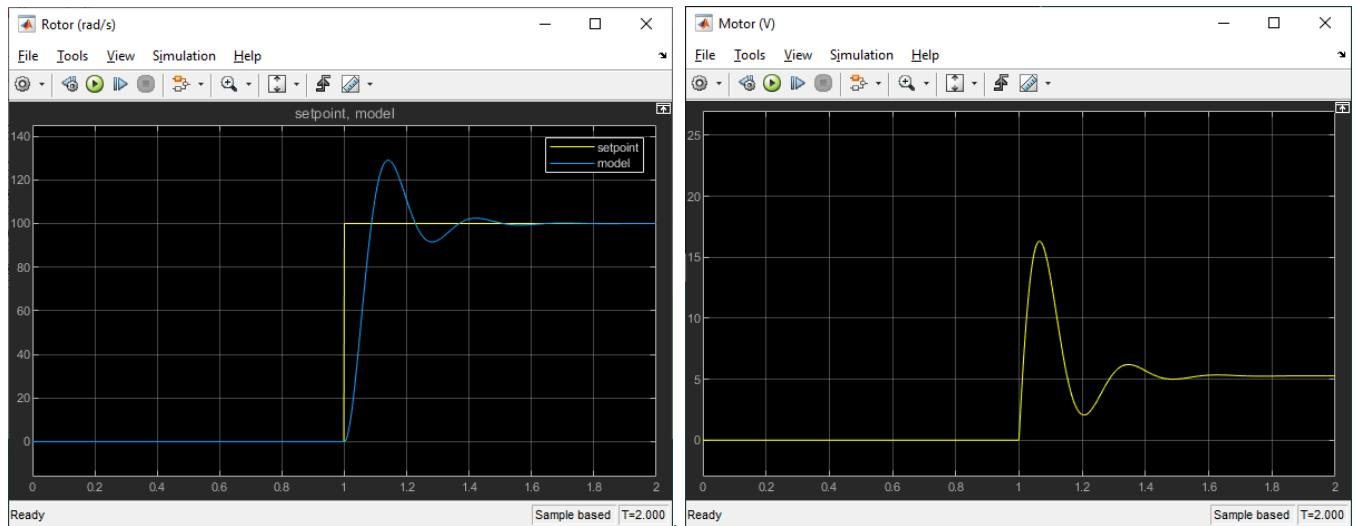

Figure 2 – Sample simulated rotor speed control response using $k_p=0.1$ and $k_i=5$.
5. Run the *s_aero2_rotor_pi*/Simulink model to simulate the closed-loop response of the PI control. The response using the default PI gains $k_p = 0.1 \text{ V}/(\text{rad/s})$ and $k_i = 5 \text{ V}/\text{rad}$ is shown in Figure 2. Note that the response with the designed PI gains will be different.